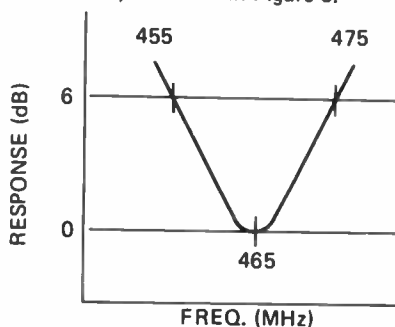

Figure 5. RF CHARACTERISTIC CURVE LOCAL OSCILLATOR CHECK
Step 2: Adjust TC1, TC2 and TC3 of RF Section for maximum output and best curve symmetry as shown in Figure 5.